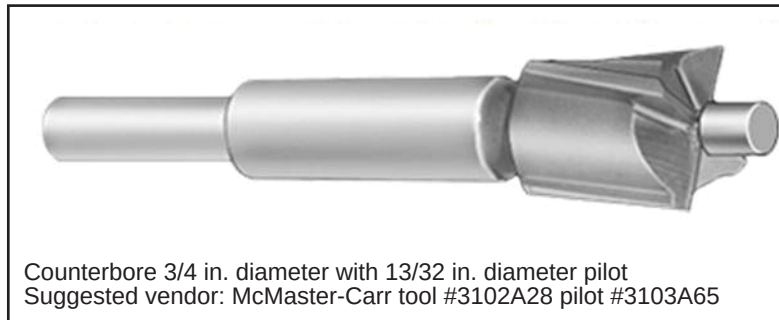

Figure 6 - Suggested Counterbore Tool
- 2.2. Clean the structure surface around the rivnut hole with a counterbore tool, or equivalent, mounted on a drill. See Figure 6.